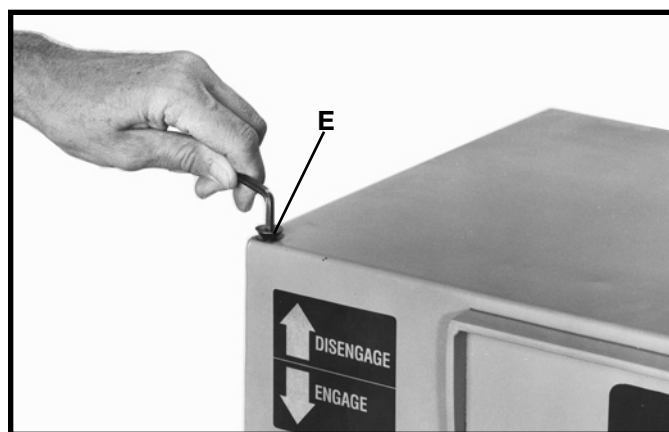
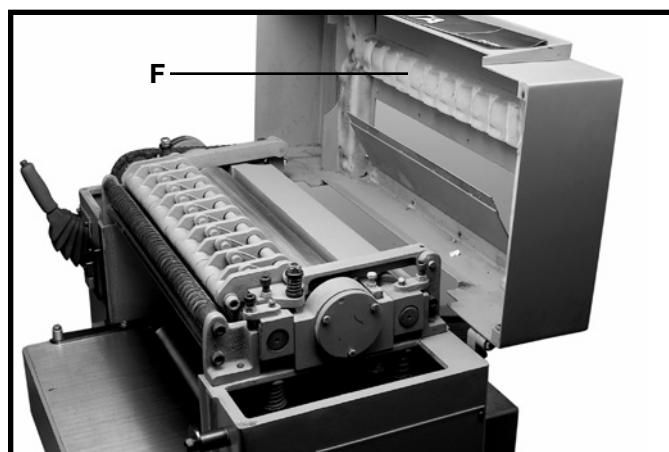

Fig. 5
Fig. 6
With allen wrench supplied, loosen and remove screw (E) Fig. 5, from the left top edge of the machine and raise the top cover (F) Fig. 6 as shown, exposing the chipbreakers, and cutterhead. **NOTE:** The top cover of the machine is hinged to facilitate cleaning and performing maintenance and adjustment procedures.